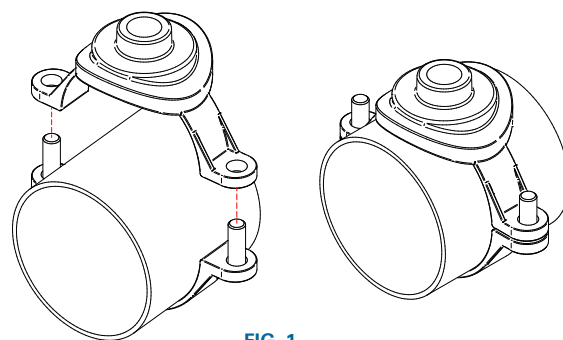

FIG. 1
2. Position the lower half - Place the lower body beneath the pipe with bolts/retainers correctly located. Keep the body square to the pipe. (See Figure 1)
3. Fit the upper half - Place the upper body over the pipe and engage both nuts by hand only. Align the threaded outlet by rotating/positioning the assembly so it is at the required tapping location and orientation. (See Figure 1)